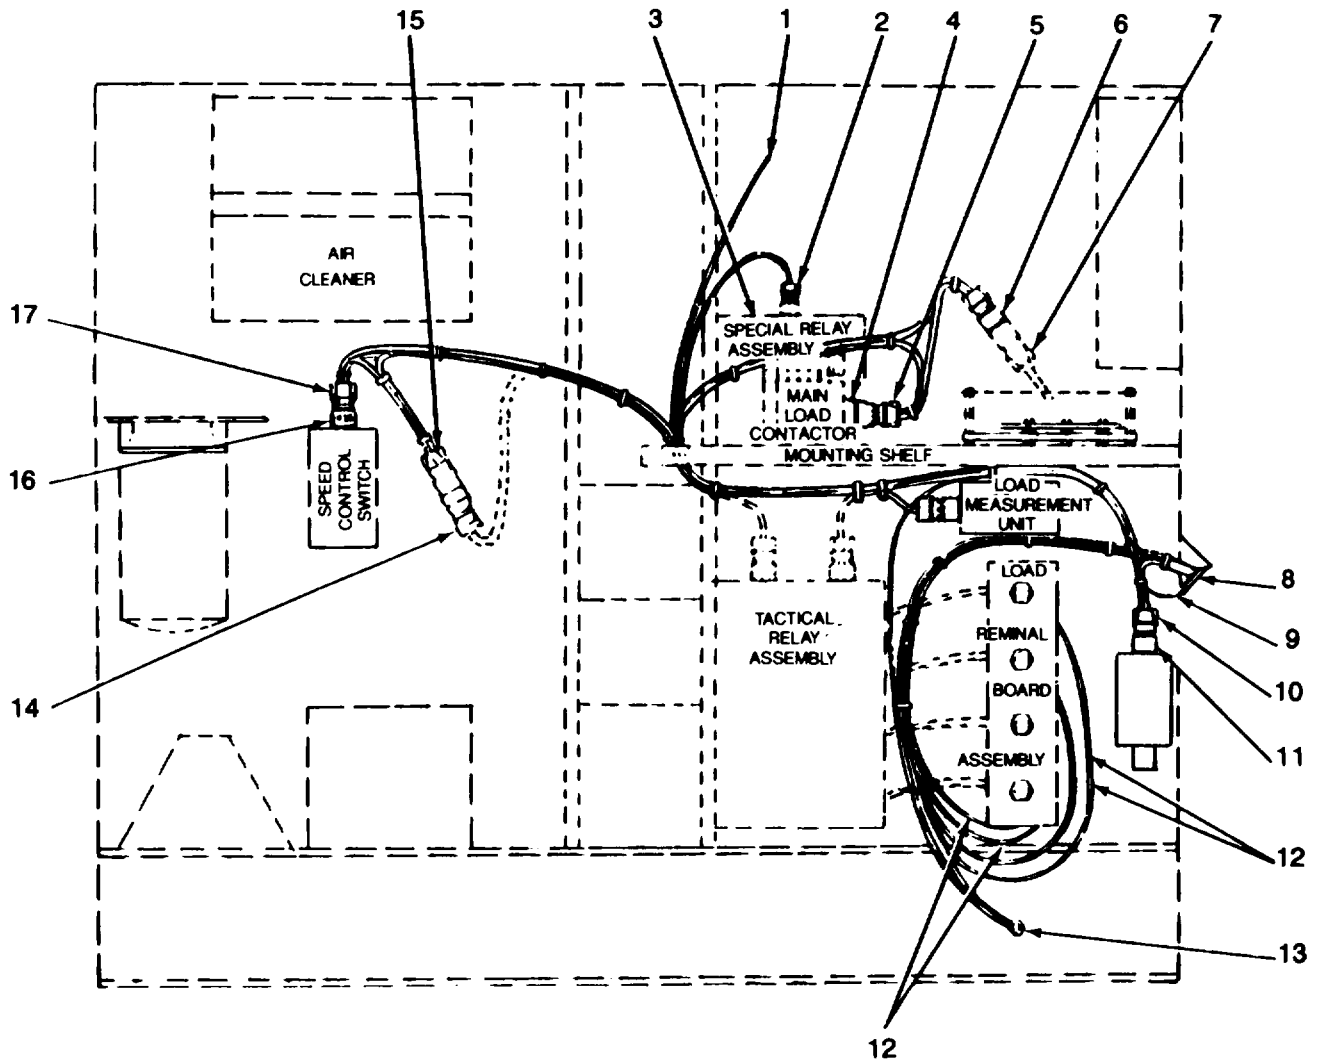

Figure 5-25. Application Kit Cable Harness Assembly Installation (Right Side)
- (d) Feed cable harness assembly (1, figure 5-25), attached to connector plate assembly (2), through the opening made by the removal of plate and sleeve assembly.
Insure the dust rover retaining chain (figure 5-25) on connector J1 is mounted on the lower right hand mounting screw of connector. A third lockwasher is added between the mounting nut and ground lug on connector mounting screw.
- (d) Route remaining eleven No. 16 AWG wires between top of load measurement unit and bottom of mounting shelf (refer to figure 5-25).
- (e) Locate three wires (P18A16N, P18B16N, and P18C16N) with a ring type terminal lug. Route the wire downward between load terminal board assembly and tactical relay assembly to generator set chassis grounding stud (13, figure 5-25). Remove ground stud nut, place ring type terminal over stud on the inside of generator set. Replace nut and tighten securely.
- (g) Position cable branch consisting of four wires ending in screw connectors P4 and J3 (5 and 6, figure 5-25) rearward on the relay table top between main lead contactor and the special relay assy. Disconnect main load contactor connector.
- (h) Route single wire ending in screw in screw-type connector P7 (2) to connecting point J29 (3) on top of special relay assembly. Remove dust cover and connect P7 to J29.
- (j) Route two remaining wires ending in the screw- type connectors P6 and J5 (15 & 17, figure 5-25) into engine compartment following path of existing wires to the engine speed switch. Disconnect existing speed switch plug (14, figure 5-25) from its connector (16) and connect cable harness connector (17) in its place. Connect existing plug (14) to remaining cable harness connector (15).
- (d) Connect test leads of ohmmeter to pins E and M on connector J1 (8, figure 5-25). Ohmmeter should indicate continuity.